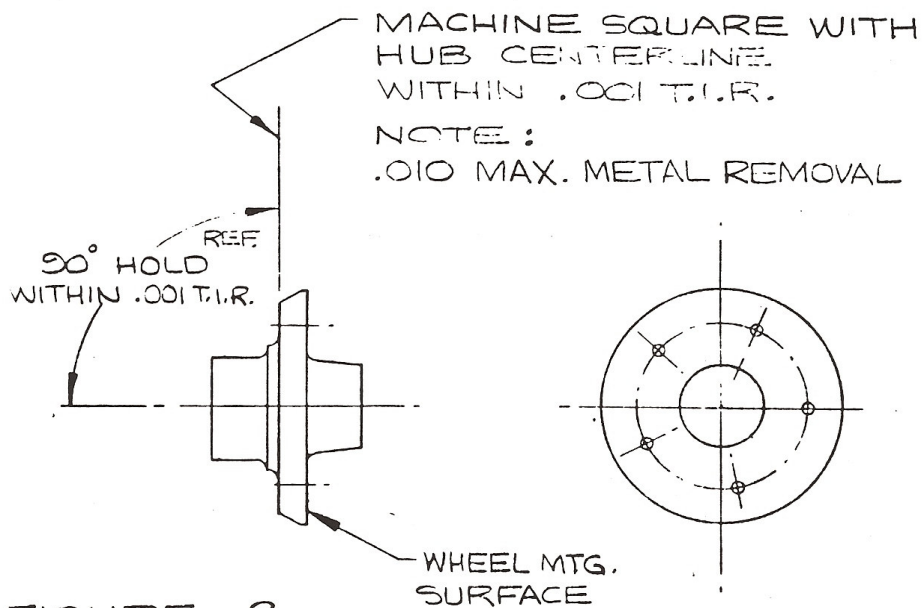

FIGURE 2
4. Qualify back face of D00Z-1102-B hub per Figure 2.